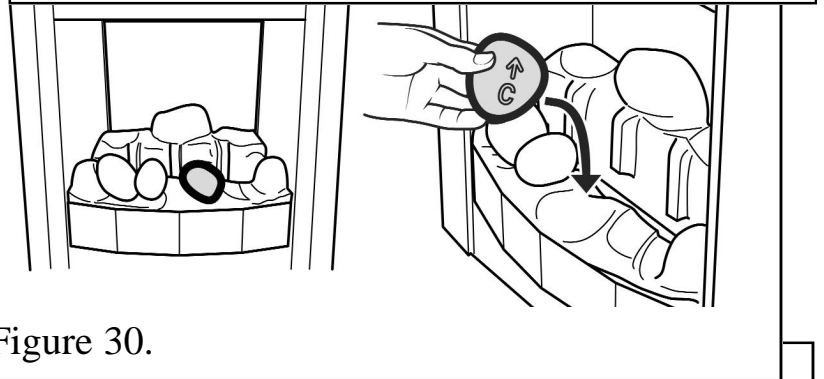

Figure 30.
6. Hold pebble 'C' upright with the arrow pointing to the top. Place pebble "C" on top of the front base pebble. It should lie against the moulded pebble to its left (See figure 30).